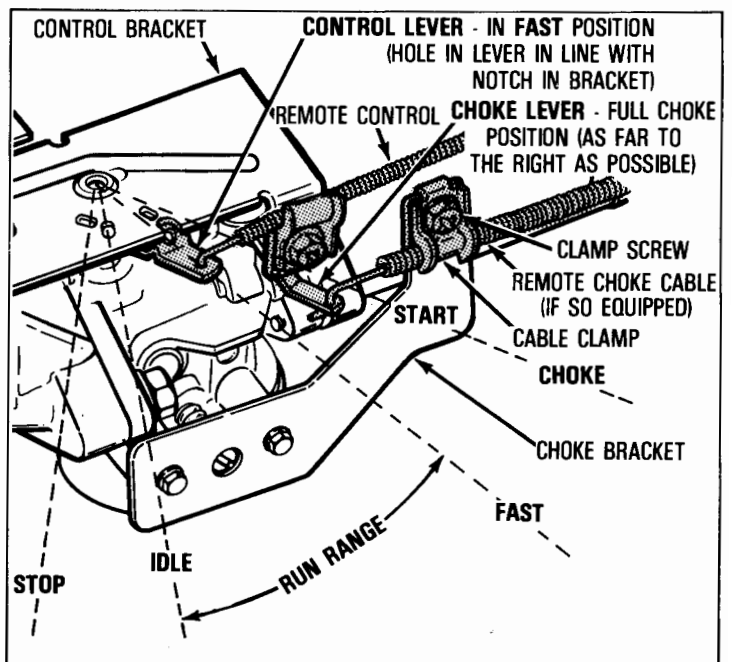

Figure 2
**NOTE:** See equipment manufacturer's instructions for control positions which correspond to engine control positions in Figures 2 and 6.
A. Move control lever (see Figure 2 or 6) or equipment control to "CHOKE" or "START".
- A. Move control lever (see Figure 2 or 6) or equipment control to "CHOKE" or "START".
### 1 REMOTE CONTROL (see Figure 2 or 6):
### REMOTE CHOKE (if so equipped - see Figure 2):